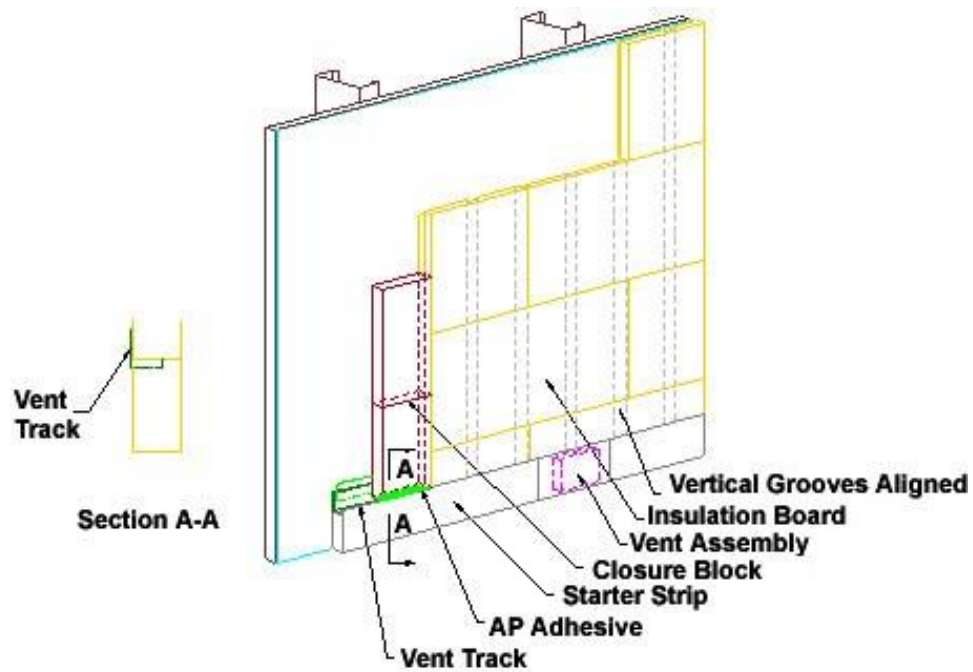

Fig. 12
1. Install 6 in (152 mm) wide Closure Blocks around all openings and tops of compartments. Install 12 in (305 mm) wide Closure Blocks on alternating sides of outside corners (see Figure 12), at vertical compartment boundaries (see Section VI.C), and vertical system terminations.